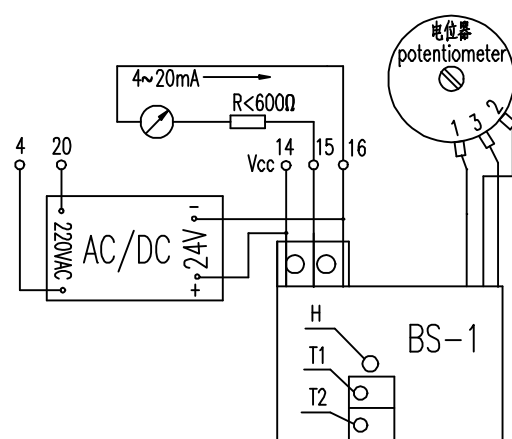

图 8 阀位变送器 Fig.8 transmitter
2. 阀位变送器 BS-1 的调整，见图 8。阀位变送器的取样电位器选用高精度导电塑料电位器 WDD32，其独立线性度 $<1\%$ ，寿命 $10 \times 10^6$ 次。图中 4、20、14、15、16 为接线端子号，H 为指示灯，其亮度随输出电流的增大而变亮。调整方法如下：
For the adjustment of position signal transmitter, refer to Fig.8 WDD32 sampling potentiometer of position transmitter is electric conductive plastic potentiometer of high precision. (independent linearity $<1\%$ , service life: $10 \times 10^6$  cycles) 4, 20, 14, 15, 16 in the Fig. is the code of terminal. H is indicating lamp, which gets brighter as output current increases. The adjusting is as following: (Take seating of valve by clockwise rotation of output shaft as example) Make valve seated, turn the axle of sampling potentiometer to make output current vary to approach 4mA (Conductive plastic potentiometer has no rotation limit). Regulate T1 until output current is accurate 4mA. Unseat the valve to complete opening to regulate T2 until output current is accurate 20mA. If counterclockwise rotation of output shaft providing valve seating is required, the rotation of potentiometer regulation should be vice versa.